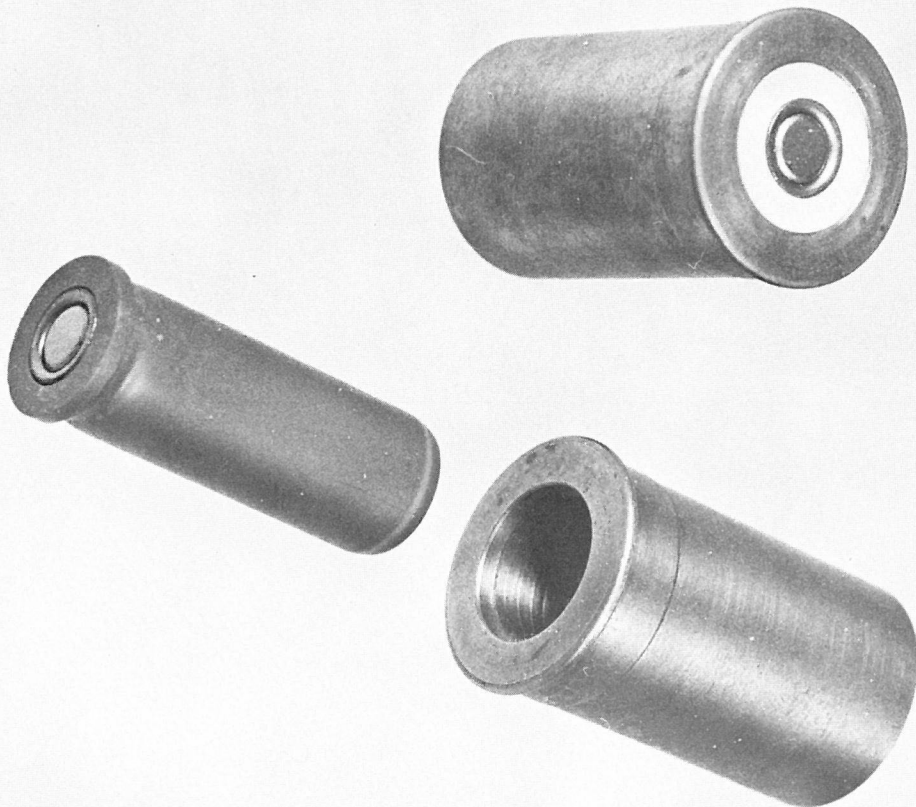

Figure 54. Alcan Shotgun Adaptor for .45 Colt Blank Cartridge
54. *Alcan Shotgun Adapter for .45 Colt Blank Cartridge (figure 54)*